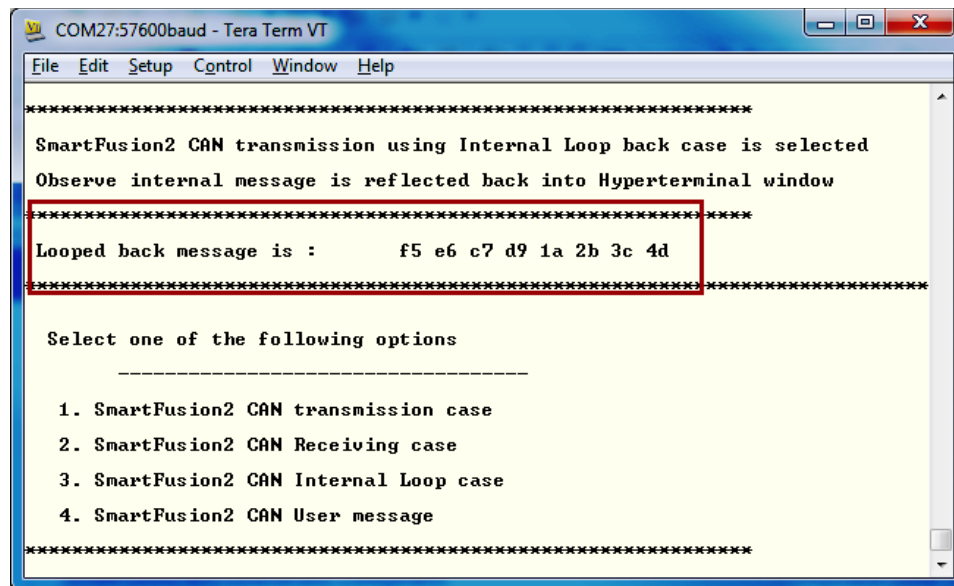
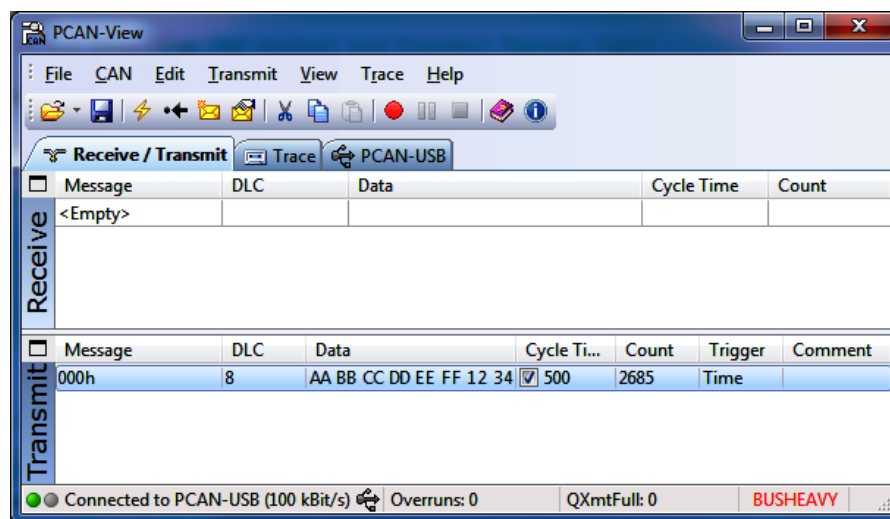

Figure 36 • Looped Back Message
Figure 37 • PCAN-View
- Enter **3**. The message is displayed in the HyperTerminal itself. The **PCAN-View** window does not receive the messages as the messages are looped internally, and they are not sent to the CAN bus as shown in Figure 36 and Figure 37.